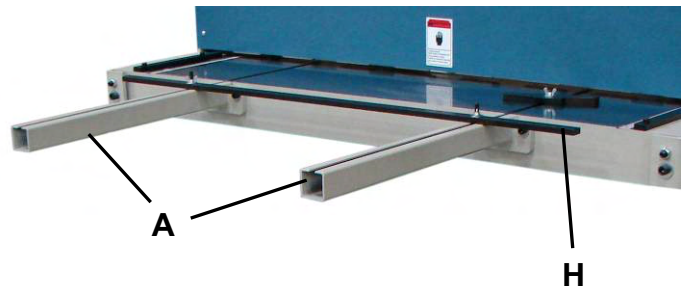

figure 16
The two material support arms (A) attach to the front of the shear as shown in (fig. 16). Remove the capscrews and washers, Position each arm and secure with the washer and capscrew. (Make sure the arms are centered to the table slots and are flush with the top of the table.) The front gauge (H) can now be inserted in the arm slots.